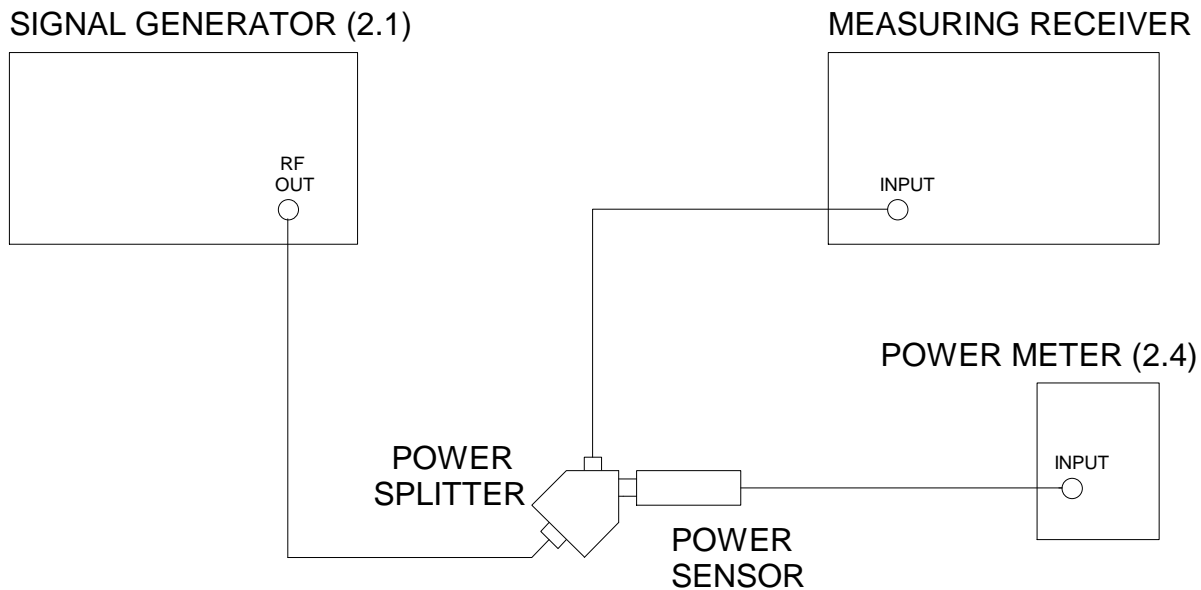

Figure 1.
4.1.1 Connect equipment as shown in Figure 1.